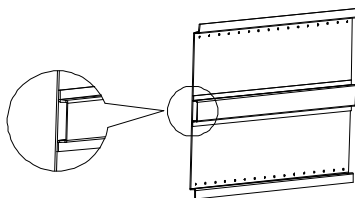

Figure 4-4 Welding a transverse reinforcement beam on the back of the backplate
- ✧ The backplate can be reinforced if necessary. It is recommended to weld a transverse reinforcement beam on the back of the backplate (as shown in Figure 4-4). This can significantly improve the load-bearing capacity of the backplate and enhance the overall structural stability.